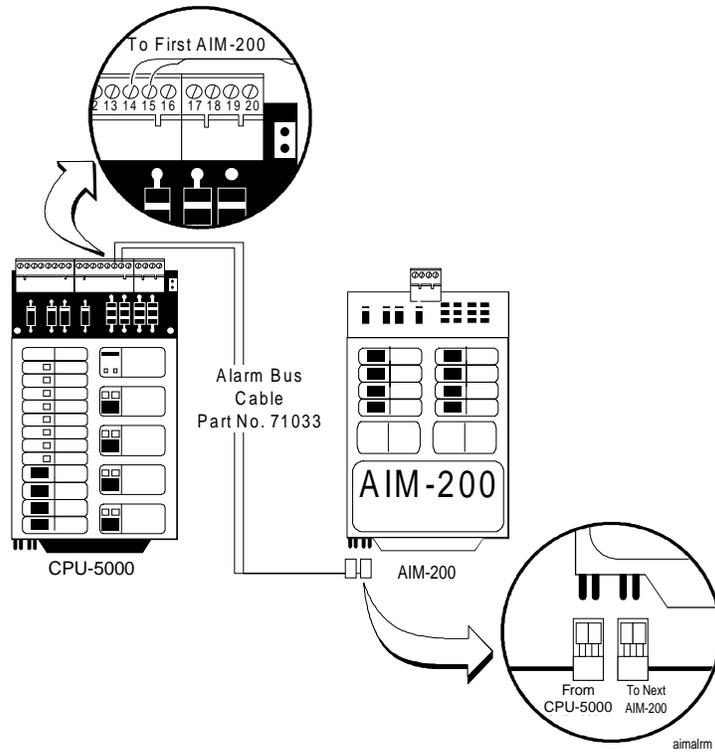

Figure 3-3: Connecting the Alarm Bus Cable
- 4) Connect the other end of the trouble cable to the left-most 2-pin terminal on the bottom left-hand corner of the AIM-200. If additional AIM-200s are employed, see Figure 3-3.